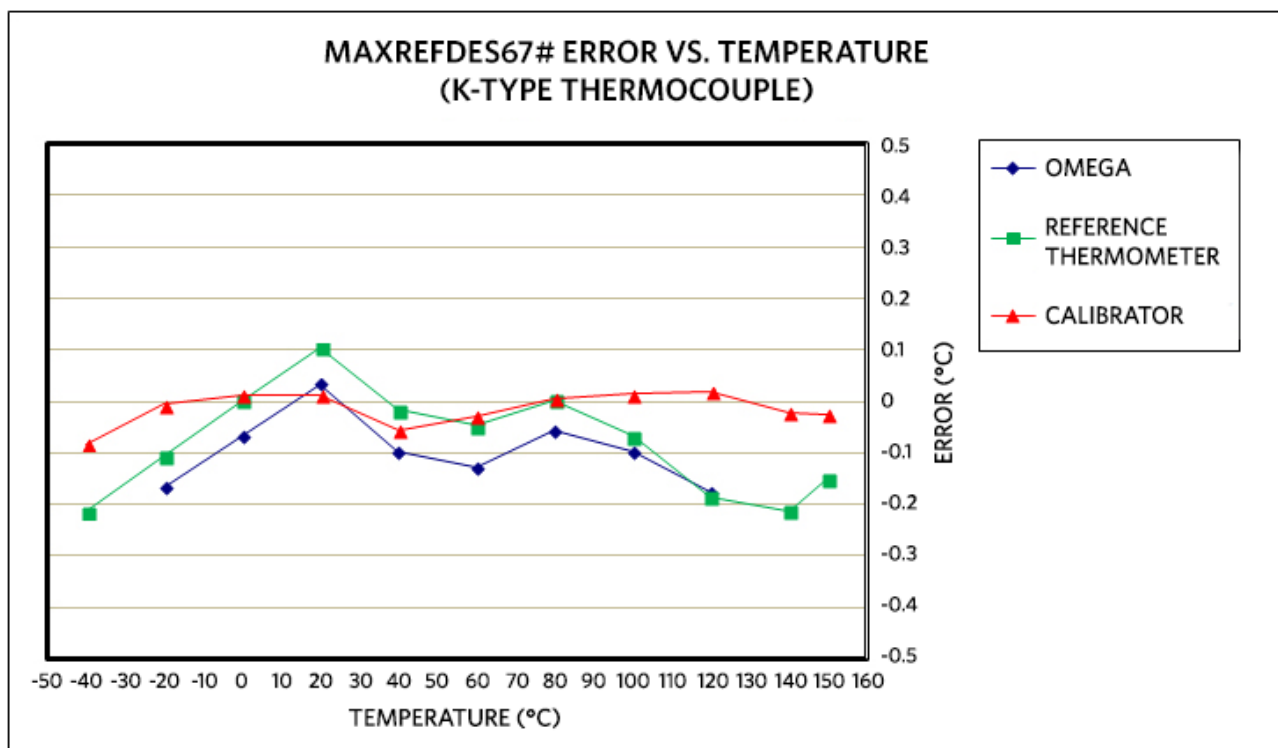

Figure 11. MAXREFDES67# error vs. temperature, using an Omnitec EC3TC, K-type thermocouple calibrated at 20°C.
**Figure 11** shows the temperature error measured by the MAXREFDES67# thermocouple input versus temperature referenced to the same three reference thermometers, the Omega HH41 thermometer, the ETI reference thermometer, and Fluke 724 temperature calibrator, respectively. The MAXREFDES67# connected K-type thermocouple probe was placed in the Fluke 7341 and calibrated at 20°C.